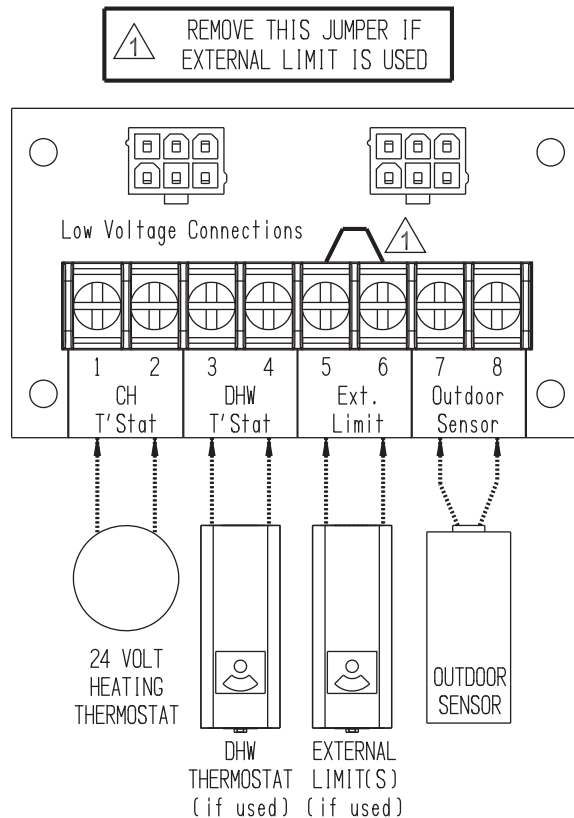

FIGURE 10.3: LOW VOLTAGE PCB TERMINAL CONNECTIONS
- 7) Manual Reset High Limit (required by some codes) - This control is required by ASME CSD-1 and some other codes. Install the high limit in the boiler supply piping just above the boiler with no intervening valves. Set the manual reset high limit to 200°F. Wire the limit per Figure 10.3 in the Wiring section.
This boiler is equipped with a listed high water temperature limit function. This limit provides boiler shutdown in the event the boiler water temperature exceeds the set point of the limit control. Certain Local Codes require an additional water temperature limit. If necessary, install an additional water temperature limit such as a Honeywell L4006 Aquastat. Wire as indicated in Figure 10.3.
2) Low Voltage Connections – Low voltage field connections on the low voltage PCB are shown in Figure 10.3 and are listed from left to right:
- 3 DHW Stat - 24VAC domestic hot water thermostat (1)
- 4 DHW Stat - 24VAC domestic hot water thermostat (2)
- 5 External Limit - Field supplied low voltage safety limit contacts (1)
- 6 External Limit - Field supplied low voltage safety limit contacts (2)
- 7 Outdoor Sensor - Tasseron TSA00AA Outdoor Temperature Sensor (1)
- 8 Outdoor Sensor - Tasseron TSA00AA Outdoor Temperature Sensor (2)